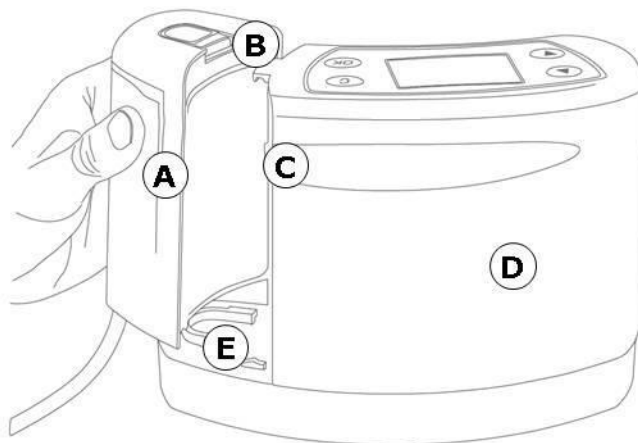

Fig. 5 Connecting the disposable secretion canister
1. Remove the disposable secretion canister (fig. 5 (A)) from the packaging.
2. Slide the canister onto the guide rail (fig. 5 (E)) of the **ASSKEA *procuff*[®] M** until the disposable secretion canister clicks into place in the locking mechanism (fig. 5 (B)).
The connection of the disposable secretion canister (750 ml) is carried out according to Fig. 5.